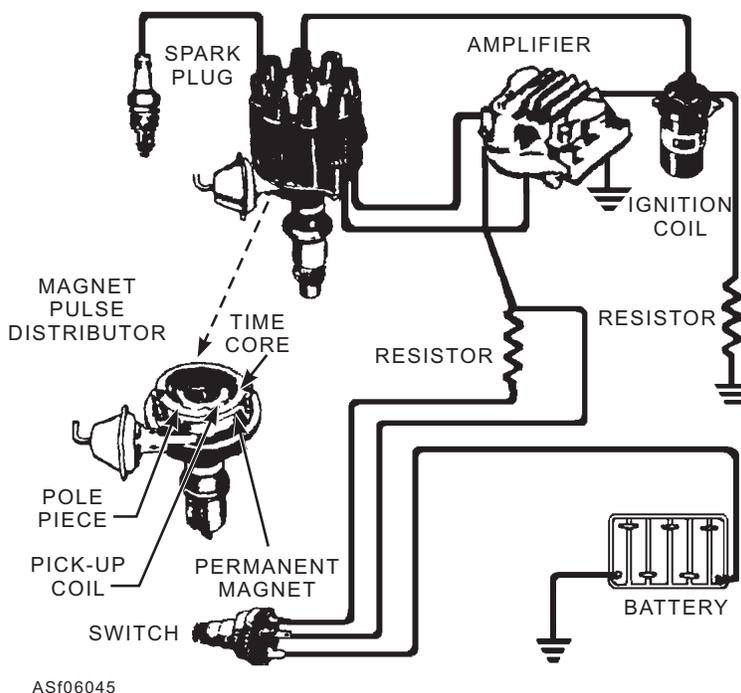

Figure 6-45.—Transistor controlled magnetic pulse battery ignition system.
**TRANSISTOR-CONTROLLED MAGNETIC PULSE SYSTEM.**—A simplified wiring schematic for a transistor-controlled magnetic pulse ignition system is shown in figure 6-45. Many of the components in this system are essentially the same as those used in the conventional and contact-controlled systems. Note that in this type of ignition system, no contact points are used. The ignition coil is similar in appearance to the conventional ignition coil, but is quite different electrically. The ignition coil for the transistor-controlled magnetic pulse ignition system has a different number of wire turns in its primary and secondary windings. The two coils are not interchangeable.